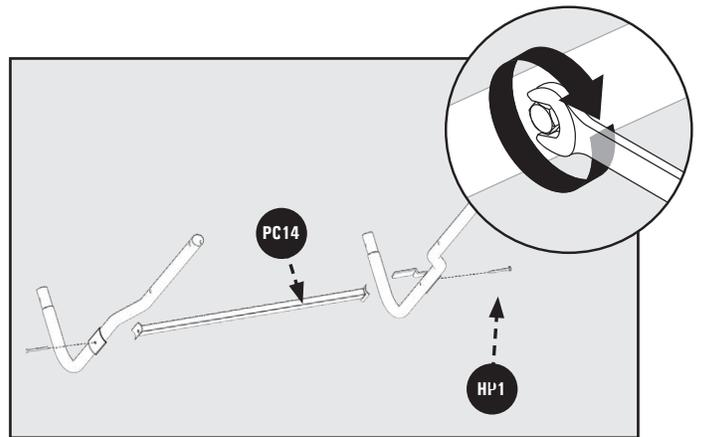
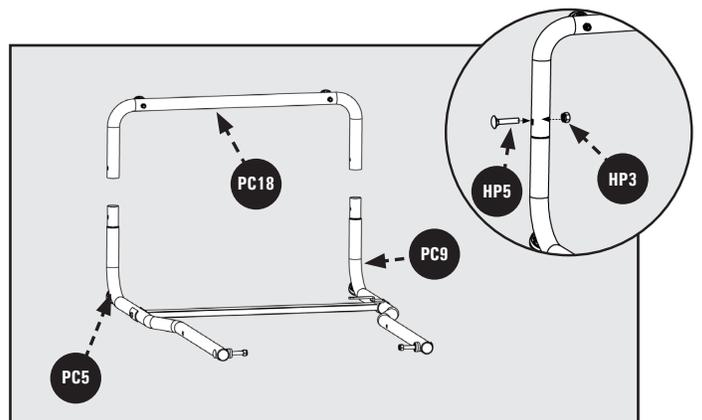

Figure 3
Figure 4
2. Connect the Support Spreader Bar (PC14) to Left Support Tube (PC9) and Right Support Tube (PC5) with M6 x 50mm Hex Bolts (HP1). See in Figure 3.
3. Attach Support Rod Connection Base (PC18) into the Upper Stand Assembly from Figure 3. Secure with M8 x 35mm Carriage Screw (HP5) and M8 Locknut (HP3). See Figure 4.